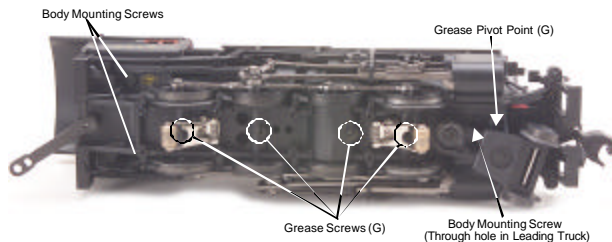
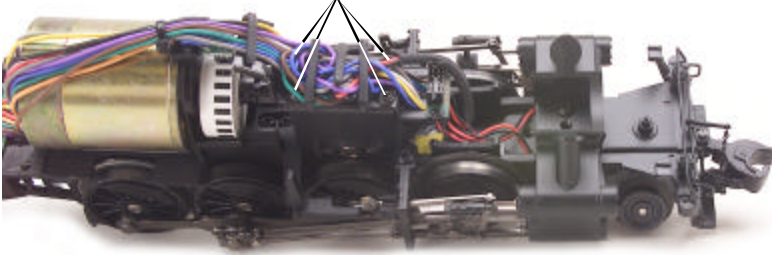

Figure 7a. Location of Body Mount Screws and Greasing Points on the Locomotive
Figure 7b. Screws to remove to access the gear box.
If you experience poor or no smoke output when the smoke unit is on and has fluid, check the wick to see if it has become hard, blackened, and unabsorbent around the heating element. To remove the smoke unit you will first have to remove the boiler shell (by removing the body mounting screws shown in Fig. 7a on pg. 12), board and bracket that block the smoke unit assembly from being accessed. To do this, follow these instructions:
2. Remove the boiler by removing the body mounting screws shown in Fig. 7a
3. Remove the Phillips screw (marked “GREASE”) located at each set of wheels (Fig. 7a) and the gearbox cover screws (Fig. 7b on pg. 13).
You should also grease the leading and trailing locomotive truck tongues to enhance their ability to slide on the chassis. Follow the grease points shown on Fig. 7a.
1. Remove the boiler from its chassis as shown in Fig. 7a on pg. 12